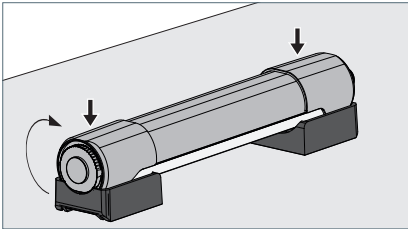

Fig. 9: Mounting the luminaire.
- ▶ Turn the luminaire along the holders by at least 90°, so that the detent lugs of the holders snap into the grooves of the side parts of the luminaire, see Fig. 9.